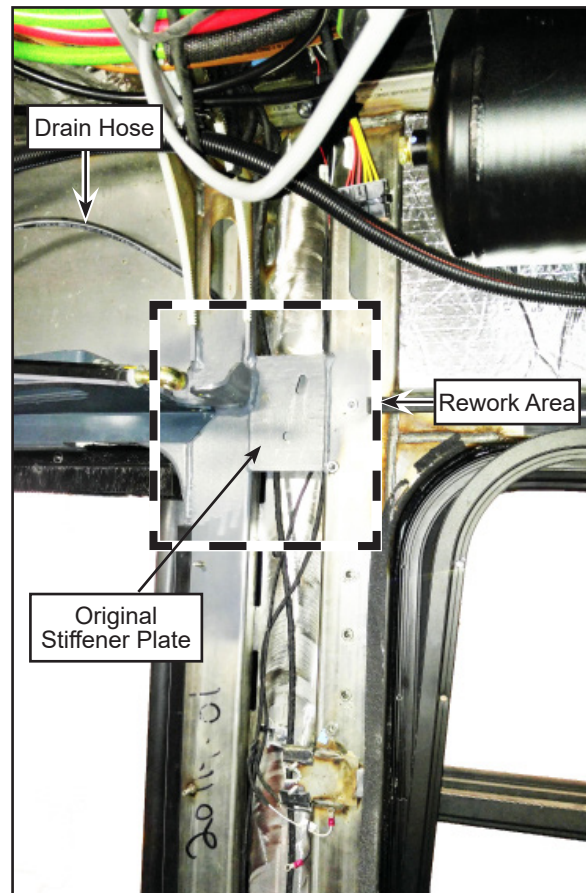
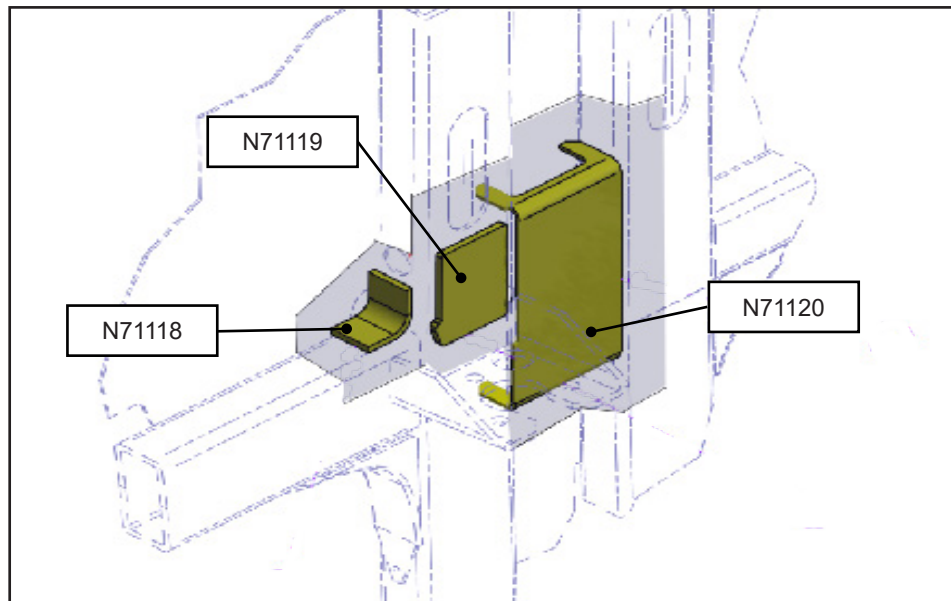

Figure 7 - Secure All Hoses and Wires Away From the Rework Area
Figure 8 - Surface Preparation Area
- 1.16. Remove the wires and the pneumatic hoses from the wall structure, including the pneumatic drain hose into the vertical tube (see Figure 7) and attach them temporarily away from the area to be reworked. Remove and keep the u-channel edge protector.
- 1.18. With a cut-off wheel, remove the original stiffener plate between the two vertical tubes, see Figure 7. This plate will be replaced by N71120, see Figure 8.
- 1.19. Surface preparation is very important. Grind as required to get smooth flat surfaces without wobbles. Remove existing welding spatters. The area to prepare has to be approximately 2 in. wider than the area covered by the new stiffening plates. See shaded areas in Figure 8 for preparation areas to be covered.